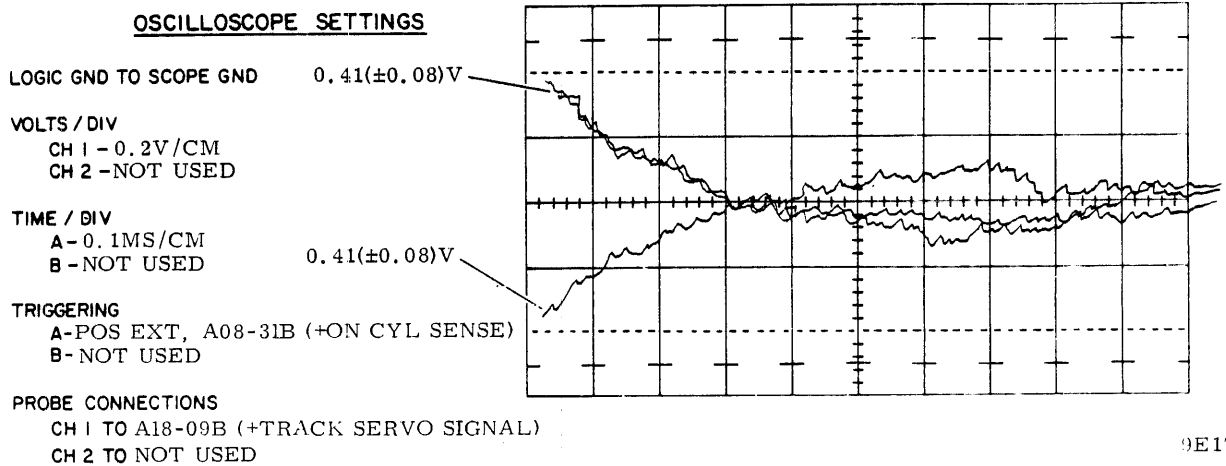

Figure 5-5. On Cylinder Switching Level - Waveform I
2. Setup and connect oscilloscope as shown on figure 5-5.
3. Command continuous 2 track seeks between cylinder 000 to 002 (001).
4. Check that resulting waveforms agree with those shown on figure 5-5.